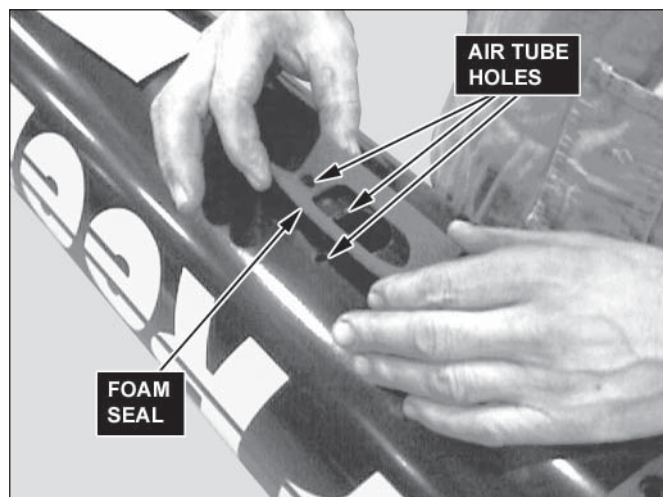

Figure 27, Apply self-adhesive foam seals
2. Apply the self adhesive foam seals (Figure 27).